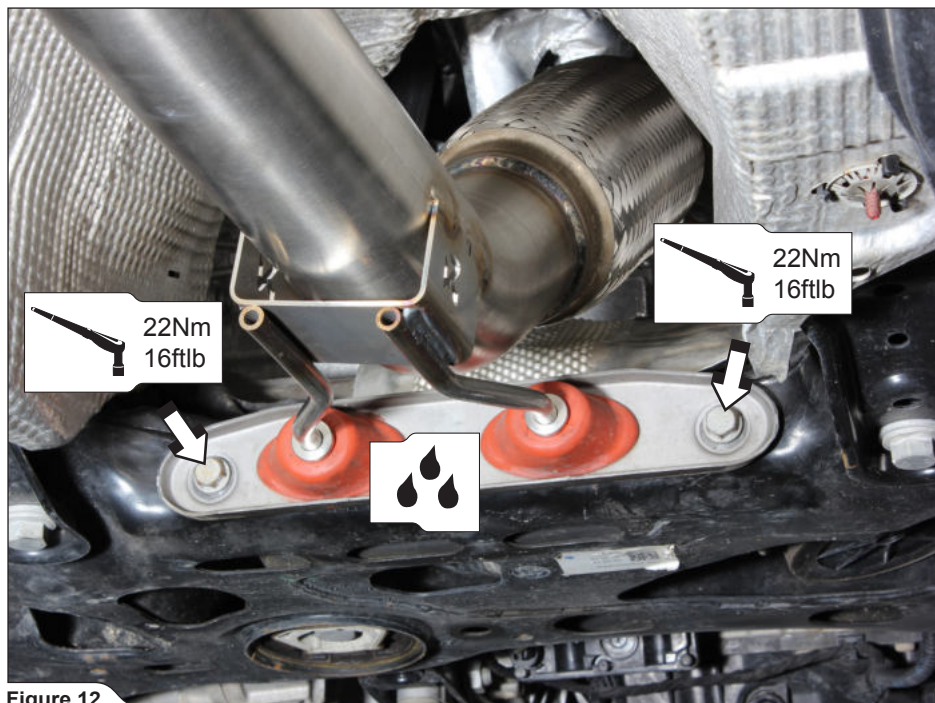

Figure 12
3. Attach the stock bracket onto the Akrapovič Down Pipe and tighten the bracket onto the chassis, using stock bolts (**Figure 12**).